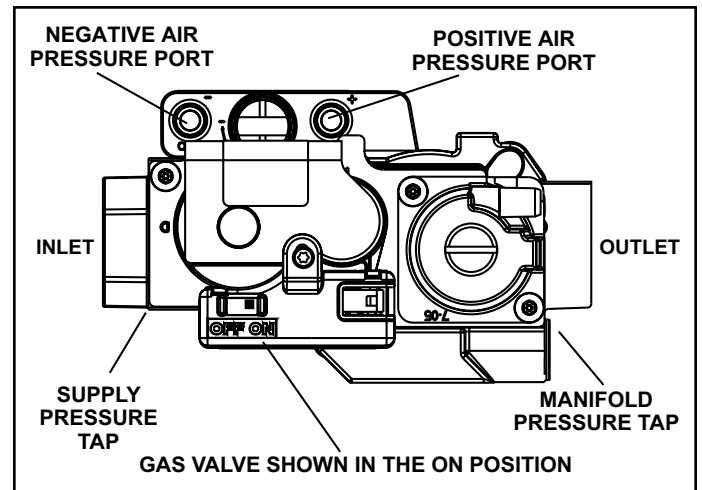

Figure 52. Gas Valve
6. Move gas valve switch to OFF. See Figure 52.
8. Move gas valve switch to ON. See Figure 52.